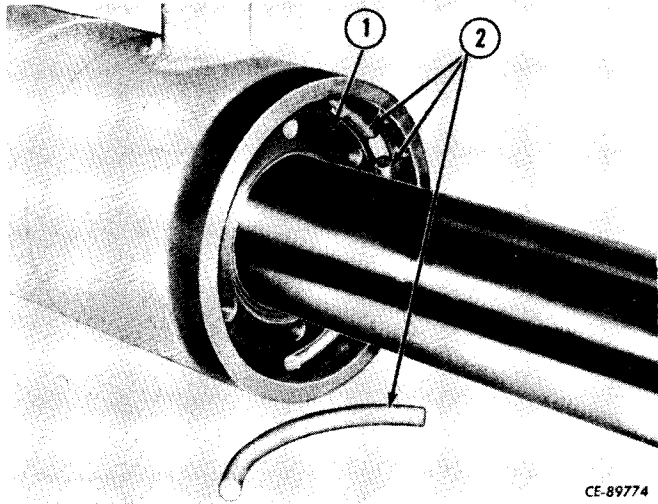

Figure 11-95
Push the cap assembly (1, Fig. 11-95) in slightly and remove the multi-piece lock ring (2).
Slide the cap assembly, end cover and "O" ring toward the cylinder. Push the cap assembly into the cylinder. Be sure the "O" ring and back-up ring on the outside of cap are correctly positioned. Install the three piece lock ring (2, Fig. 11-95) in the cylinder recess.